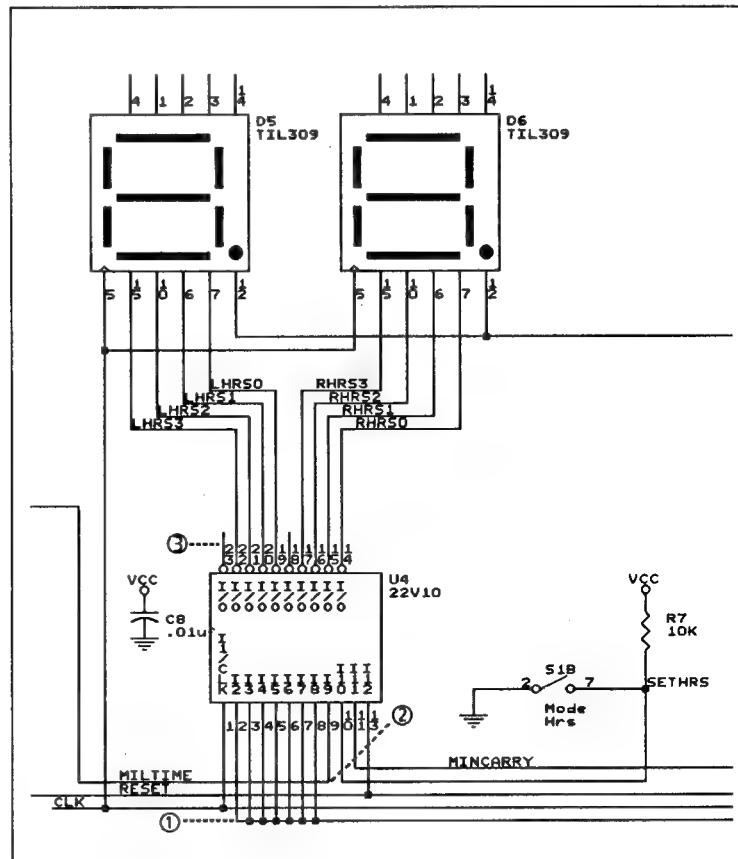

Figure 6-6. Hours area of the clock logic. The callouts refer to the step numbers in this section.
Before working on the hours circuit, move the pointer to the leftmost 22V10 and select ZOOM Center. Then follow the steps below to complete the wiring for the hours circuit (figure 6-6).
3. Move the pointer to the bottom wire directly below the TIL309 on the left, and place the label as shown in figure 6-6.